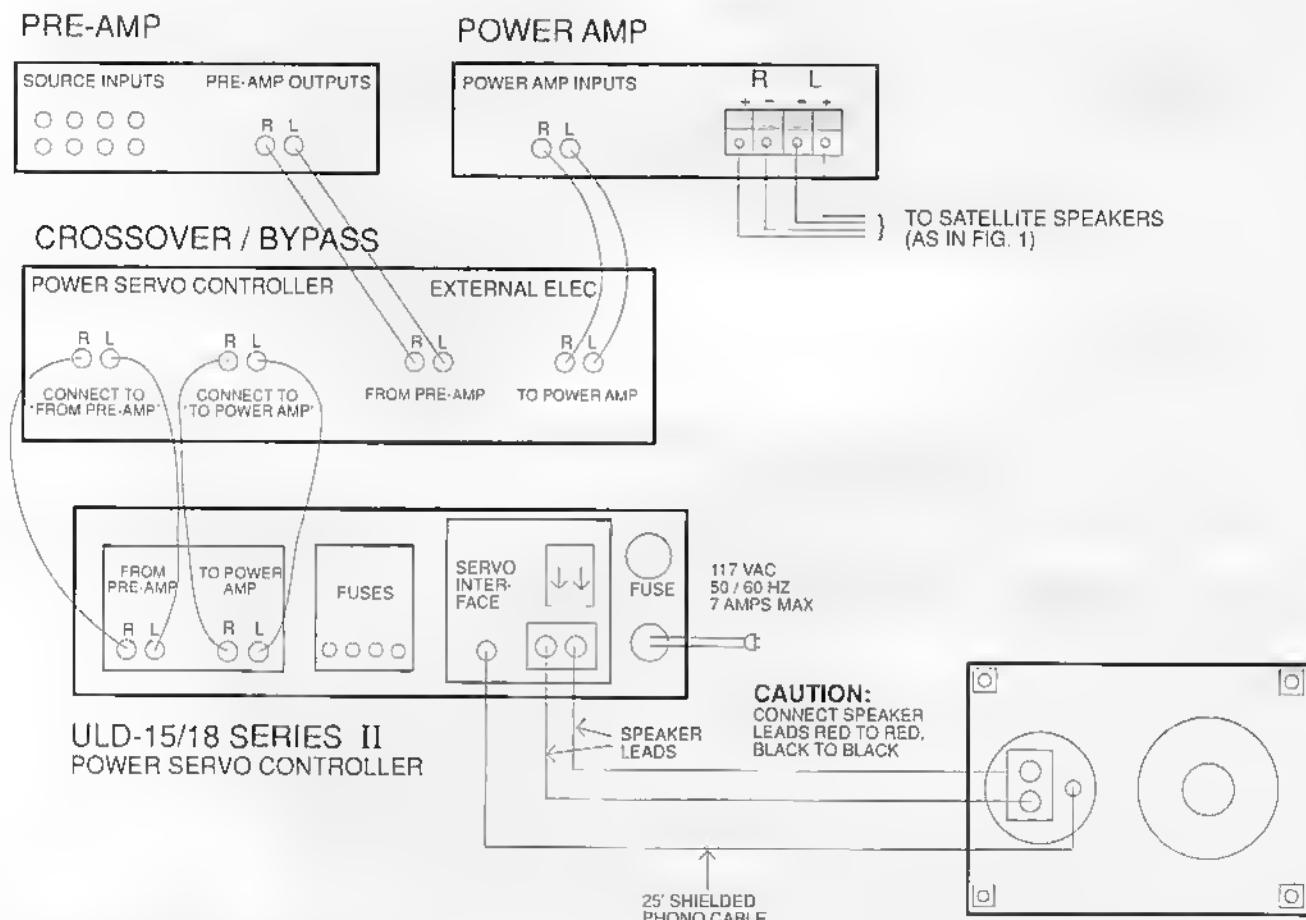

Figure 2: Connection using
**Installation of Crossover/Bypass Option:** For audiophiles who prefer a passive high pass crossover, Velodyne offers an accessory unit which includes a 6 dB per octave crossover as well as a subwoofer bypass switch. The bypass function allows you to play your main speakers full range without the subwoofer. Figure 2 shows how to connect your ULD-15/18 with the Crossover/Bypass.